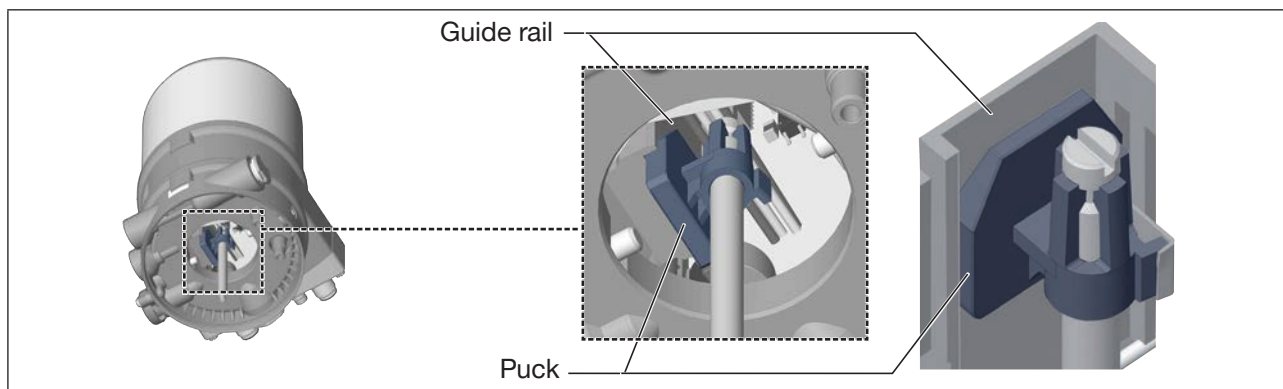

Figure 16: Aligning the puck
2. Align the puck of the actuator with the guide rail of Type 8692/8693 (see Figure 16)